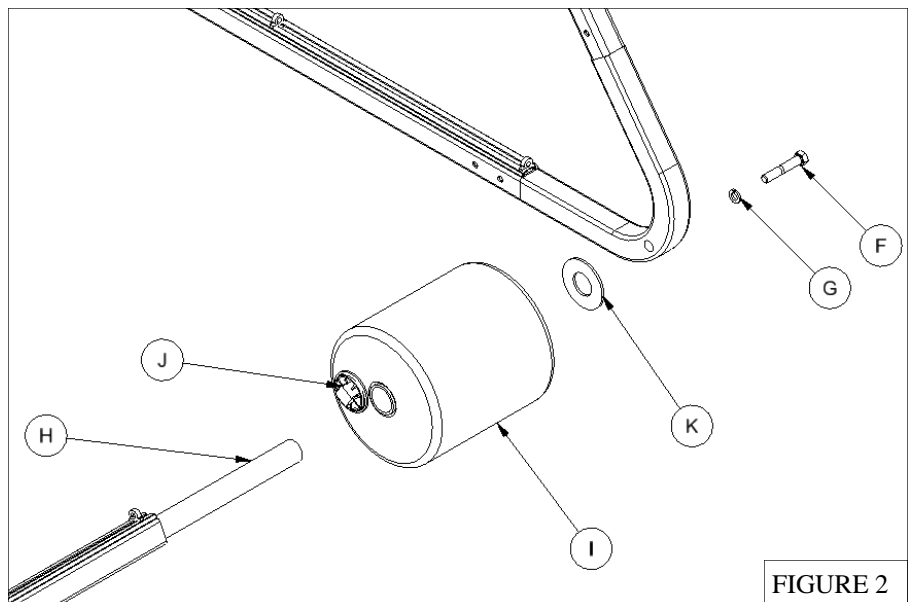

FIGURE 2
5. Fill each *Ballast Drum* (I) completely with sand, making sure the sand is compacted. They should hold approximately 60-70 lbs. of sand each. Once full, install the *Plug* (J) and tighten securely to ensure there is no sand escaping. See Figure 2.
6. On each end of the *Backstay Spreader Tube* (H), with the *Plug* (J) facing inside the goal, slide on one *Ballast Drum* (I), followed by a *Washer* (K).
7. Carefully tip the entire goal assembly into the upright playing position. Using 5/8" *Hex Bolts* (F) and 5/8" *Lock Washers* (G) install the *Backstay Spreader Tube* (H) onto the backstays. See Figures 2 and 3.
8. If not already installed attach *Front Soccer Warning Label* (SCPA#1) (L) to the face of each *Crossbar* (A). Install one *Rear Soccer Warning Label* (SCPA#2) (M) to each tubular backstay at eye level. Replacement warning labels are available without cost by calling Customer Service at 1-800-247-7668.
9. Install *Net Attachment Clips* (O) into the slots in the rear face of the goal, the lower backstay and the *Backstay Spreader Tube* (H) should be spaced approximately 16" - 24" intervals. The *Net Attachment Clips* (O) slip into the slot and twist 90° into position with the opening to the outside of the goal.
10. Drape the net over the backstays and attach to the *Net Attachment Clips* (O) on the rear face of the goal. A rope is woven into the net behind the top front to attach to the left hand and right hand backstays to help support the net. Use roll of *Hook and Loop Net Fastening Strap* (N) to attach net where clips are not present. Cut to length needed.